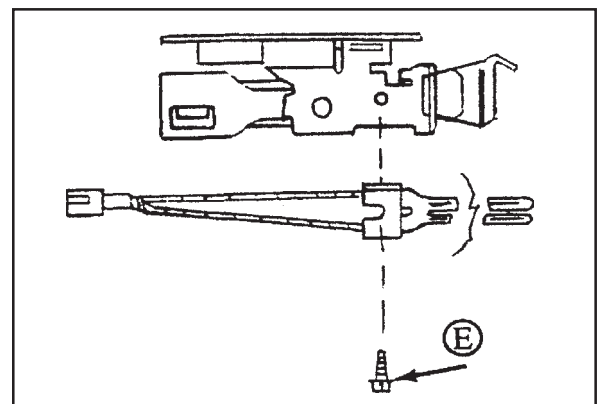

Figure 4.4
6. Remove screws (E) holding broken glo-bar to burner and remove glo-bar (See Figure 4.4).